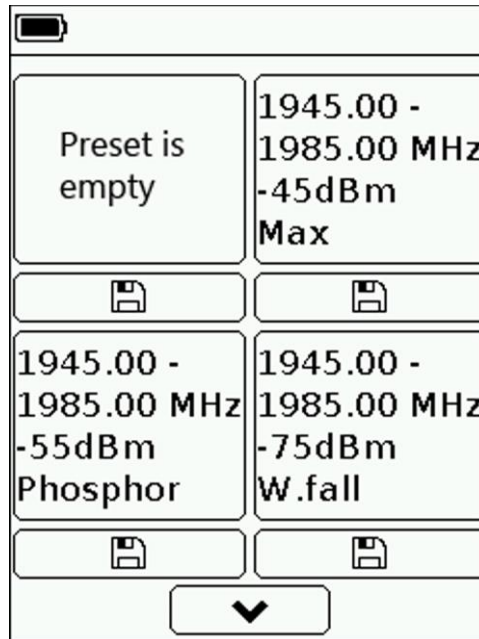

Figure 8.6.1 - Custom settings menu
8.6.1. Enter the main menu of the device and select the **«Presets»** section. A menu will appear on the screen for saving and loading user settings, as in Figure 8.6.1.